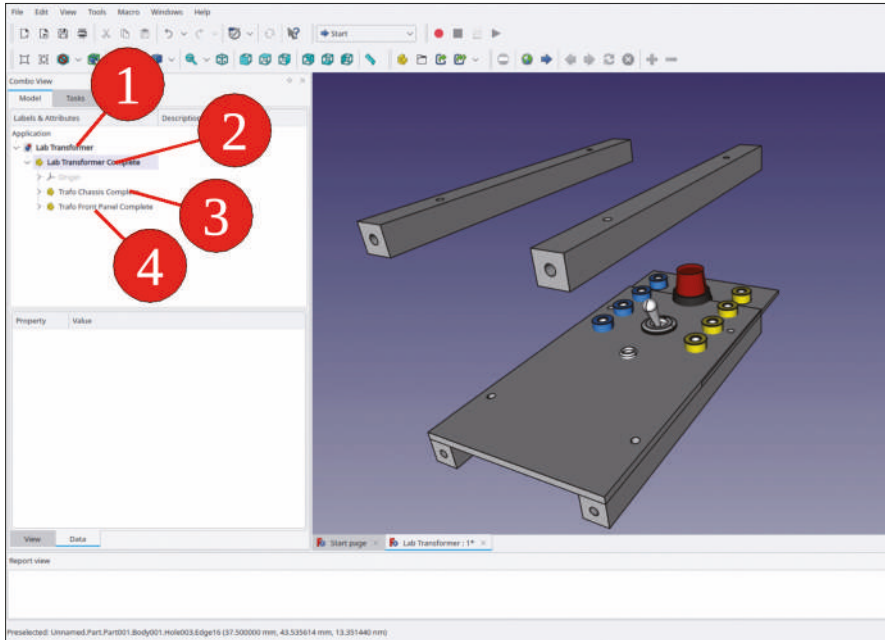

Figure 9-76
4. Similarly, copy 'Trafo Front Panel Complete' from the file 'Transformer Front Panel', paste it into the new document, and drag-and-drop the container into 'Lab Transformer Complete' (Figure 9-76).